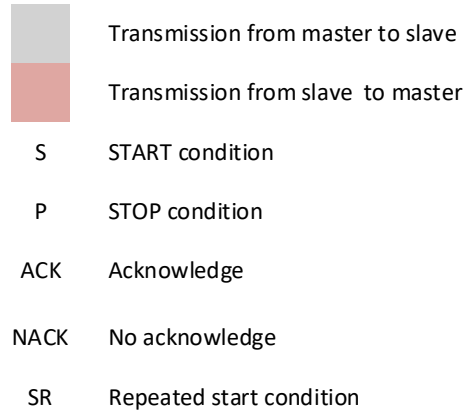

Figure 9: Write and read operations with the device
After receiving the register address, the slave sends an Acknowledgement (ACK). If the master is still writing to the slave (R/W bit = 0), it will transmit the data to slave in the same direction. If the master wants to read from the addressed register (R/W bit = 1), a repeated start (SR) condition must be sent to the slave. Master acknowledges the slave after receiving each data byte. If the master no longer wants to receive further data from the slave, it would send No-Acknowledgement (NACK). Afterwards, Master can send a STOP condition to terminate the data transfer. Figure 9 shows the writing and reading procedures between the master and the slave device (sensor).